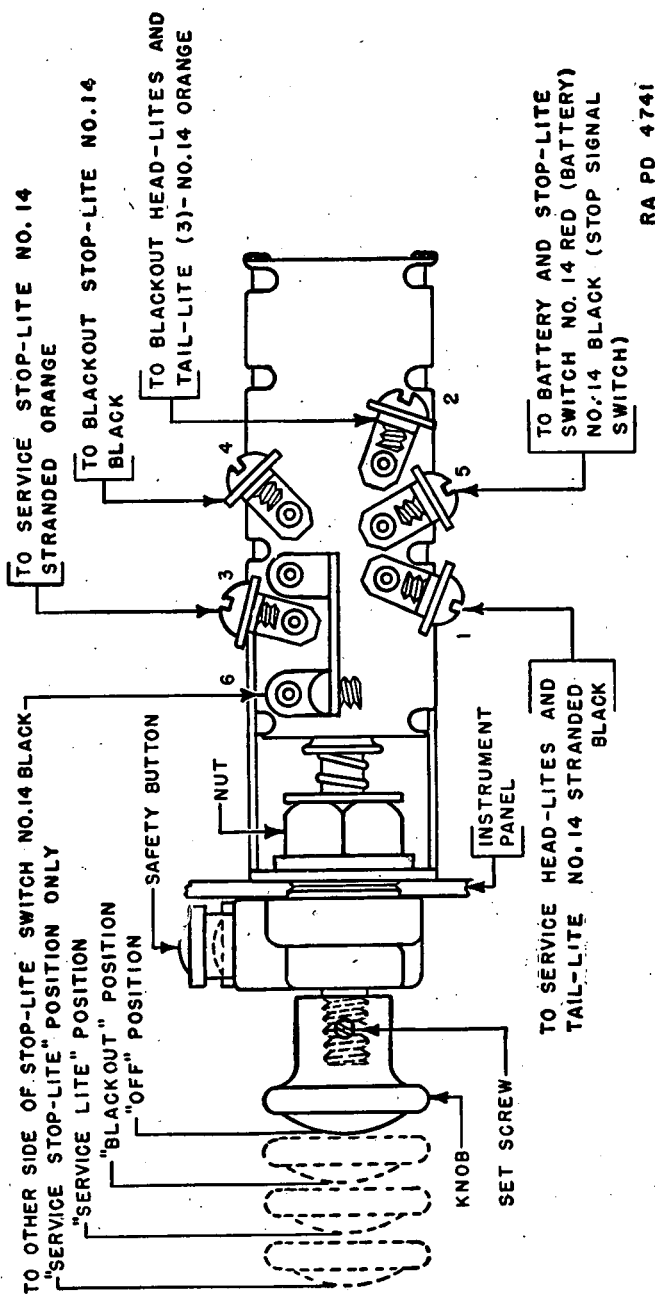

FIGURE 99.—Light switch.
e. *Lighting switch* (fig. 99).—(1) *Operation*.—The exterior lights on the vehicle are controlled by a 4-position push-pull switch. Starting from the “off” position, pulling the knob of the switch out to the first notch provides current for the blackout headlights, taillight, and stoplights. A safety button must be depressed before the switch knob can be pulled to the second position. This position supplies current for the operation of the service headlight, taillight, and stoplights. A dimmer switch in the headlight circuit must be in the “on” position for full illumination of the terrain in front of the vehicle. The third position of the switch provides current for the service stoplight only.
(2) *Replacement*.—The members near the terminal screws in figure 99 correspond with the numbers in wiring diagram figure 98. Use the following procedure in replacing the lighting switch: